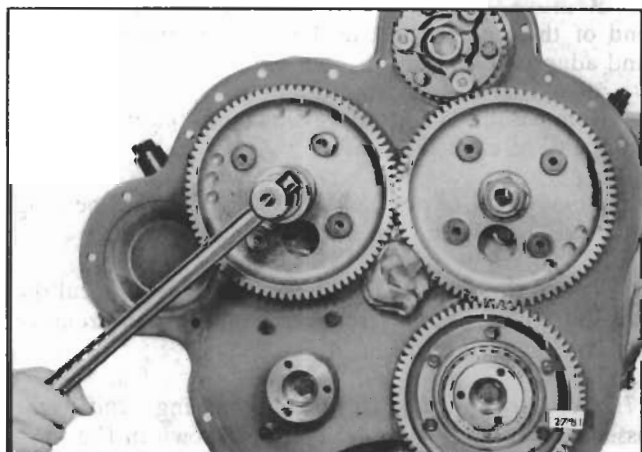

Fig. 1 - Loosening Camshaft Gear Retaining Nut
8. Remove the bolts and step-up gear, if used, from the rear right bank camshaft gear (Fig. 1, Section 1.7.1).
10. Wedge a clean rag between the gears (Fig. 1) and remove the gear retaining nut from both ends of each camshaft. On left hand rotation engines remove the lock bolt and washer from the right bank camshaft.